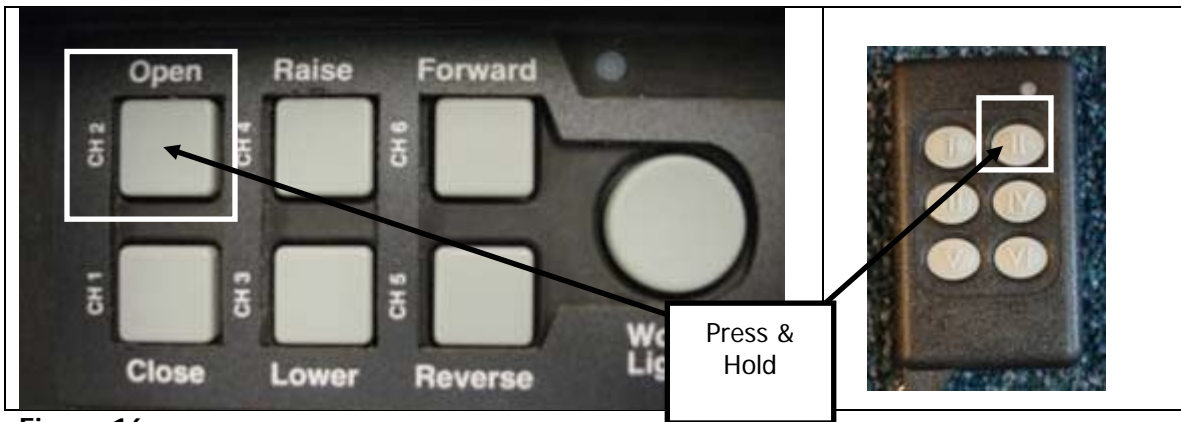

Figure 16
- 3) Walk tarp in as you wind it. To wind the tarp press & hold button 2 on the control box or on the key fob (see Fig. 16).